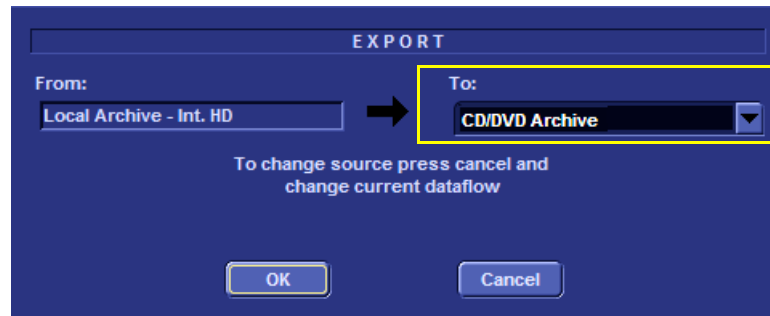

Figure 8-142 Export Screen
The **Export** screen opens - see Figure 8-142.
- 6.) From the Export screen, select the required destination media (Figure 8-142) and click **OK**.